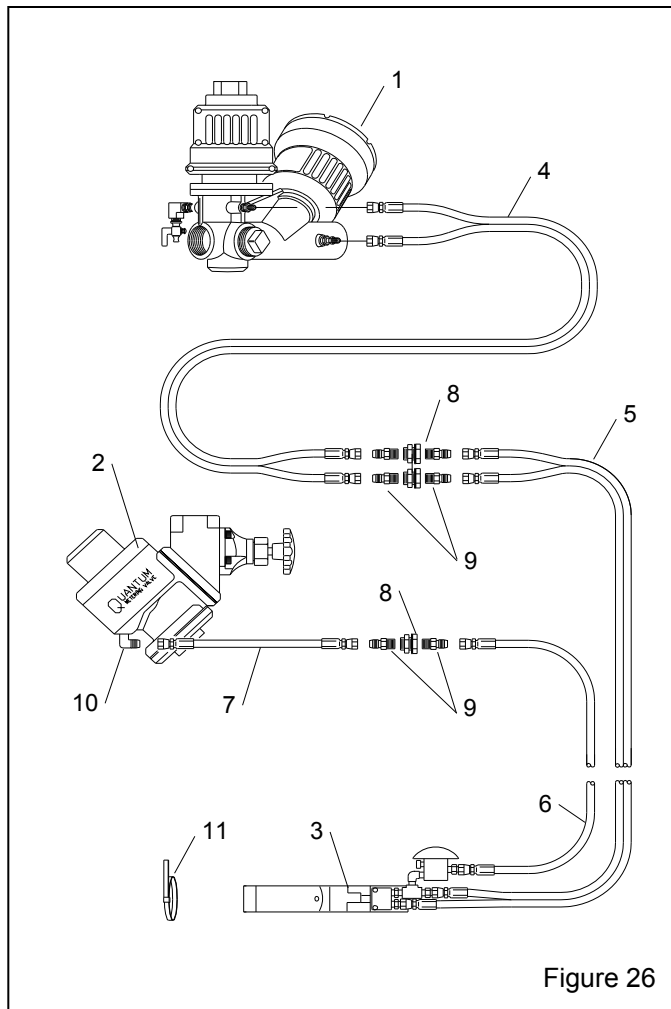

Figure 26
8.4 Remote Control System Parts, Figure 26